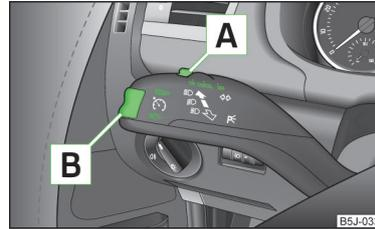

Fig. 119
- Press switch **A** » Fig. 119 to the **ON** position.
- Press rocker button **B** » Fig. 119 on page 122 to the **RES** position.
- The stored speed can be **reduced** by pressing rocker button **B** » Fig. 119 on page 122 to the **SET** position. ▶
The cruise control system can be temporarily switched off by pushing switch **[A]** » Fig. 119 on page 122 to the spring-loaded **CANCEL** position or by depressing the brake or clutch pedal.
- Press switch **[A]** » Fig. 119 on page 122 to the right to the **OFF** position.